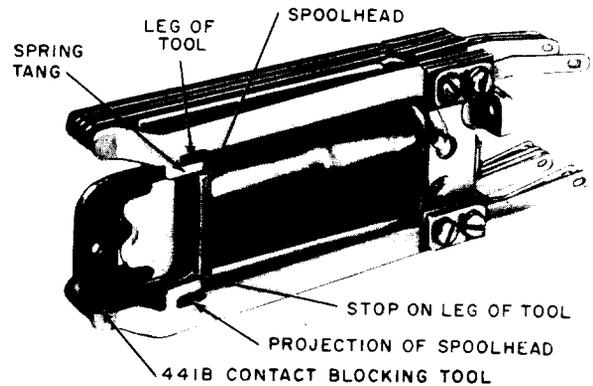

Fig. 36—Blocking EA41 Relay for Cutover Purposes
(4) **EA41 Relay:** Fig. 36—Using the 441B contact blocking tool, block open the contacts controlling the circuit through the line relay. Insert the legs of the tool under the tangs of the back contact springs. Position the legs against the projections at the top and bottom of the spoolhead and push the tool forward until the stop on each leg rests against the front of the spoolhead.